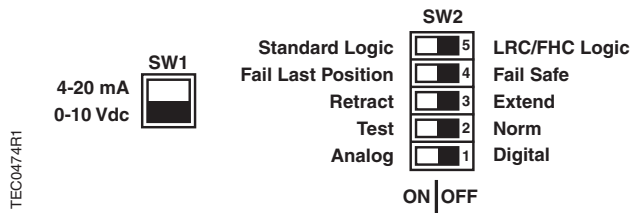

Figure 3. Switch Settings for the AO-E Modules.
8. For each AO-E module, verify that the switches are set as in Figure 3.